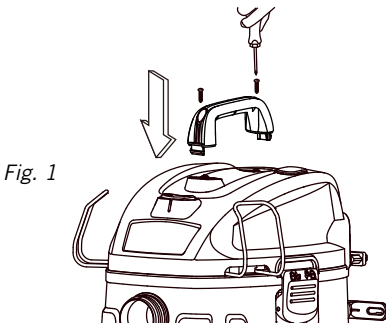

Fig. 1
4. Insert the handle **2** into the slots located on the top of the power head **8** and secure it with the screws **10** provided. Do not over-tighten the screws. **Fig. 1**.